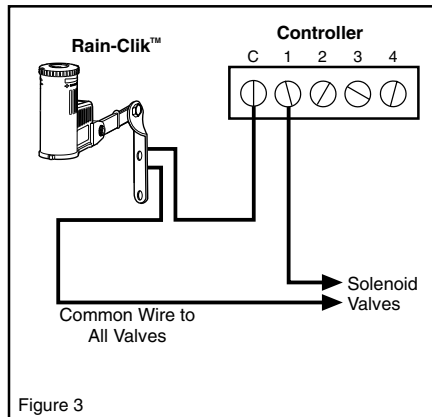

Figure 3
A. 24 Volt Solenoid Valves Only (No booster pump) (See Figure 3).